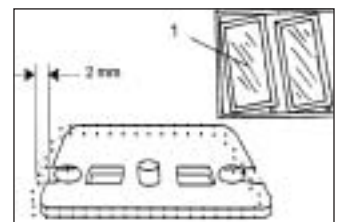

Fig. 6
6. After installation, if the door appears to sag (figure 6), loosen the screws on the bottom mounting plate, and adjust the door to the desired position. The bottom plate can be moved in each direction.